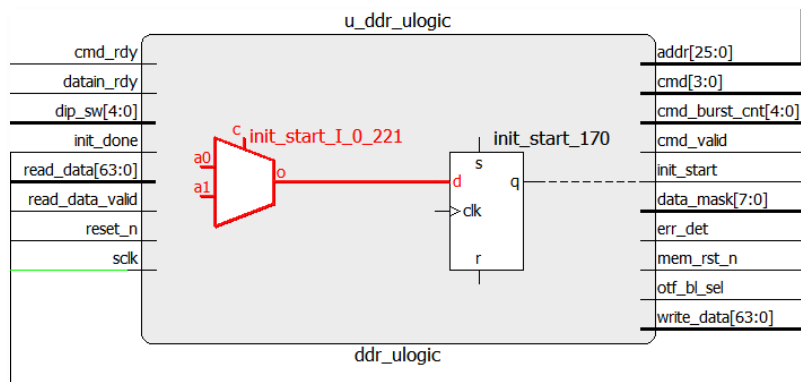

Figure 3.14. Logic Connected to the *d* Pin
- Now select the *d* pin and double-click. The connected logic to the *d* pin of the register gets highlighted as shown in Figure 3.14.